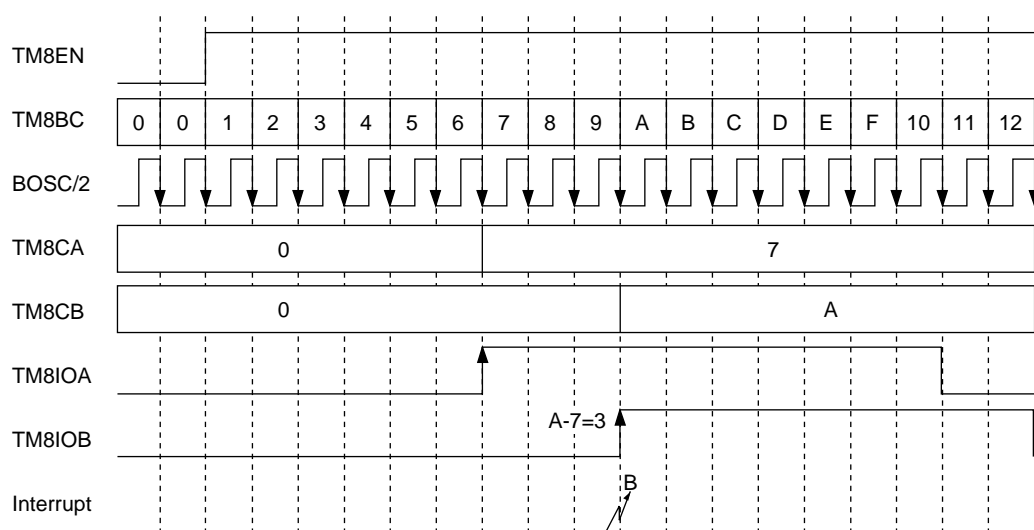

Figure 4-4-12 Two-phase Capture Input Timing (16-bit Timer)
- (5) Execute the interrupt service routine. The interrupt service routine determines the interrupt group and factor, and clears TM8BIR flag.
- (6) Calculate the signal width. Save the TM8CA value and the TM8CB value to the data registers (DR0 to DR3), and subtract the TM8CA value from the TM8CB value. The width will be calculated correctly even if the TM8CA value is greater than the TM8CB value by setting TM8LP to 0. Figure 4-4-12 shows 000A-0007=0003, or 3 cycles.
Timer 8 functions as a one-phase capture input. Select up counting. Timer 8 does not operate stably when BOSC stops (in STOP mode). All external inputs are sampled on BOSC (synchronized with BOSC) when the external clock operates. The TM8CA register is captured on the rising edge of TM8IOA pin, and the TM8CB register is captured on the rising edge of TM8IOB pin. A capture B interrupt is generated on the TM8CB capture, and the TM8CA and TM8CB values are read during the interrupt processing routine. Figure 4-4-12 shows $000A-0007=0003$, or 3 cycles. The same result is obtained even if the TM8CA value is greater than the TM8CB value. For example, $0003-FFFFE=0005$. The signal width is calculated by ignoring flags.